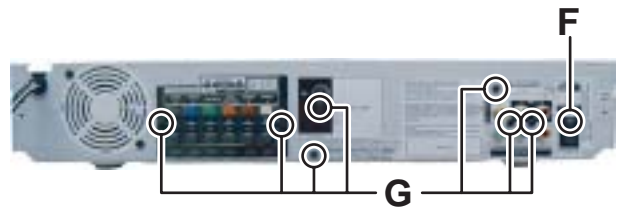

Fig.11
- (3) Remove the one screw **F** and seven screws **G** attaching the Rear panel. (See Fig.11)